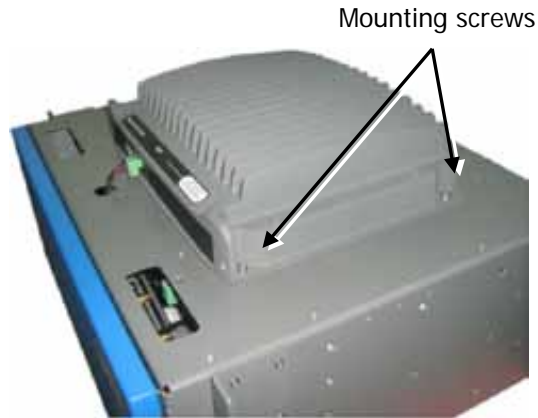

Figure 4-8. AO Unit Mounting Holes – General Location
2. Assemble AWS Add-On unit on to top cover using the four (4) 8/32 X 1/2, PAN HD, Philips screws (supplied) – two on each side. See Figure 4-8.